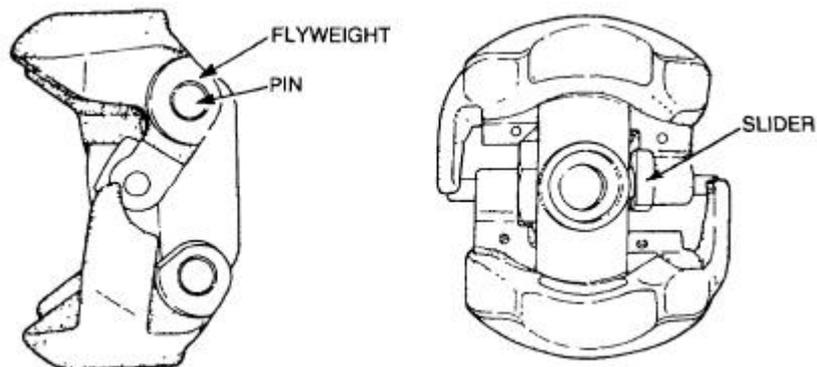

Figure 100 Flyweight Inspection
- c. Inspect the flyweight assembly. Check for perceivable radial clearance between the flyweight and the pivot pin and the slider and pivot pin. Check for excessive wear on the contact surface of the slider (Figure 100). If any of these faults are found, replace the flyweight assembly.